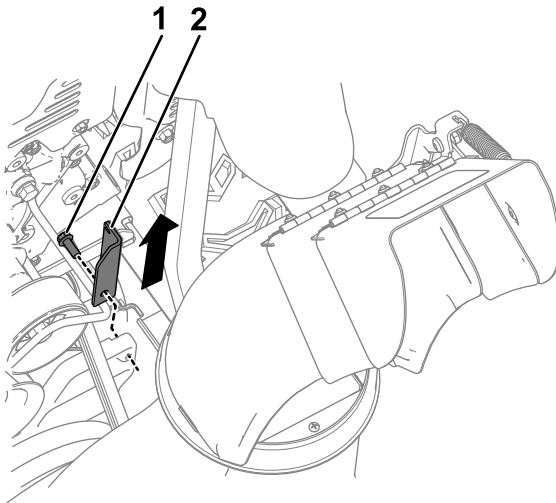

**Figure 2**
3. Unhook the spring from the existing traction plate (Figure 2).